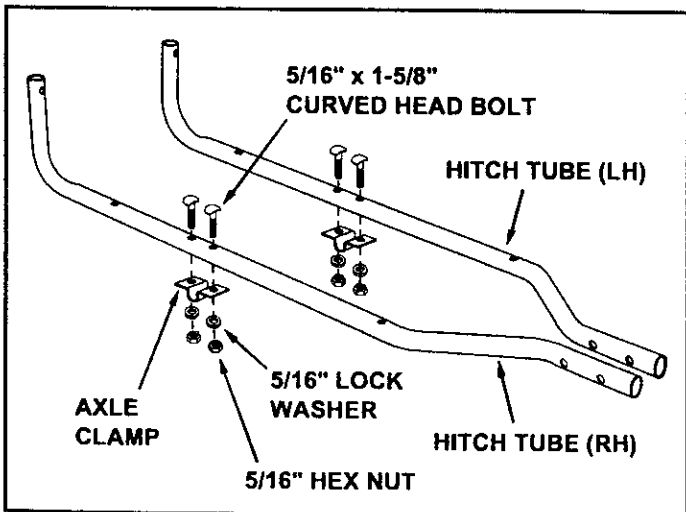

FIGURE 1
- (1) Hammer
- Assemble the axle clamps to the hitch tubes using four curved head bolts, 5/16" lock washers and 5/16" hex nuts. **Do not tighten yet.** See figure 1.
- **Tighten** the four hex nuts which fasten the axle brackets to the hitch tubes. See figure 1.